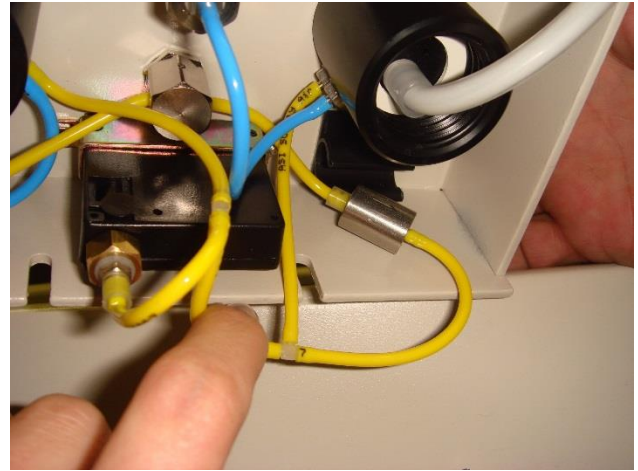

Fig. 2
4. Locate the stainless steel regulator up inside the closed water system bracket behind the pressure heads (it is held in place by a black plastic clip). Pull the regulator down and out of the plastic clip. (Fig. 2)